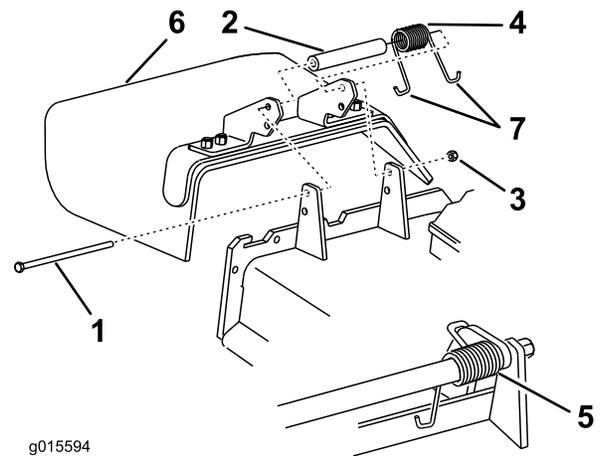

Figure 61
- Remove the locknut, bolt, spring and spacer holding the deflector to the pivot brackets (Figure 61). Remove the damaged or worn grass deflector.
Note: Make sure one J end of the spring is installed behind the deck edge before installing the bolt as shown in Figure 61.
- Install the bolt and nut. Place one J hook end of the spring around the grass deflector (Figure 61).